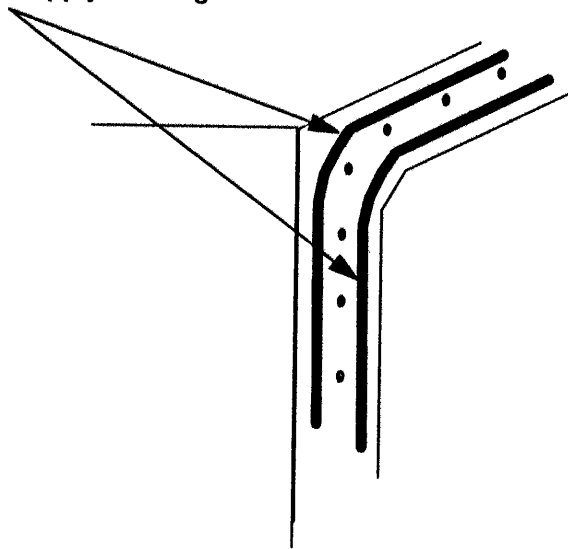

Figure 4.
12. Place two rolls of "Butyl Sealant" (1/8" by 1/2" [3,2 by 12,7 mm] supplied with enclosure) on the mating flange of one enclosure section. Mounting hardware should be between the two rolls of sealant (see Figure 4).